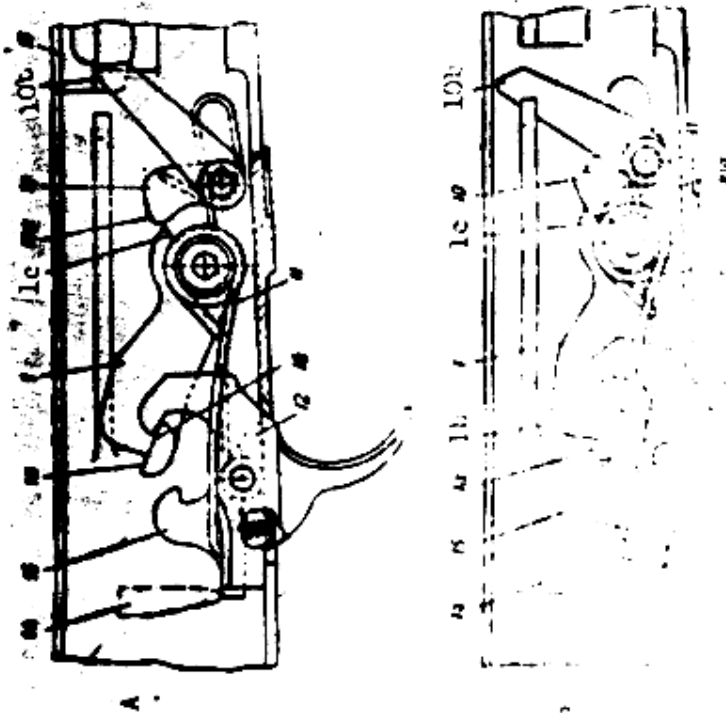

Figure 60. Trigger mechanism in position for full automatic fire.
When the selector is set for full automatic fire (fig. 60), the passage for the cocking handle is cleared. At the same time, the selector lever lug (14) moves to the rear far enough to release the rear end of the trigger while still remaining directly above the rear end of the disconnector (15). Thus, while the trigger is free to rotate, the selector lever lug still prevents the disconnector from rotating. When the selector is set for semiautomatic fire, the selector lever moves all the way to the rear, releasing both the trigger and the disconnector (15). Thus the disconnector is free to rotate with the semiautomatic sear when the trigger (12) is pressed.\*
The hammer continues to be propelled to the rear, first by the lug on the rear of the operating rod and then by the large lug forming the bottom of the operating rod. As the hammer rotates to the rear, the head of the hammer depresses the semiautomatic sear; and since the pressure on the trigger remains constant, the semiautomatic sear engages the hammer cock notch as soon as the head of the hammer has passed the sear (position of trigger mechanism as in A, fig. 60). When the hammer has reached the extreme rear position, the full automatic sear notch is located opposite the cock notch on the full automatic sear; at this point the full automatic sear spring rotates the full automatic sear to the rear, engaging the full automatic sear cock notch (10a) with the full automatic sear notch (1c) in the hammer (position of trigger mechanism as in B, fig. 60). Simultaneously, the upper end of the full automatic sear rises and obstructs the full automatic disconnector.
After the bore is sealed, the operating rod continues to move forward. The full automatic disconnecter rotates the upper end of the full automatic sear forward, disengaging the full automatic sear cock notch (10a) (fig. 60) from the full automatic sear notch in the hammer. The hammer rotates forward, engaging its semiautomatic sear notch (10b) (fig. 61) with the semiautomatic sear. This is accompanied by an audible click.
When the trigger is pressed, it rotates on the trigger pin. The disconnector (15) (fig. 60) does not engage the disconnector notch in the hammer, since the disconnector is prevented from rotating by the selector lever (14).